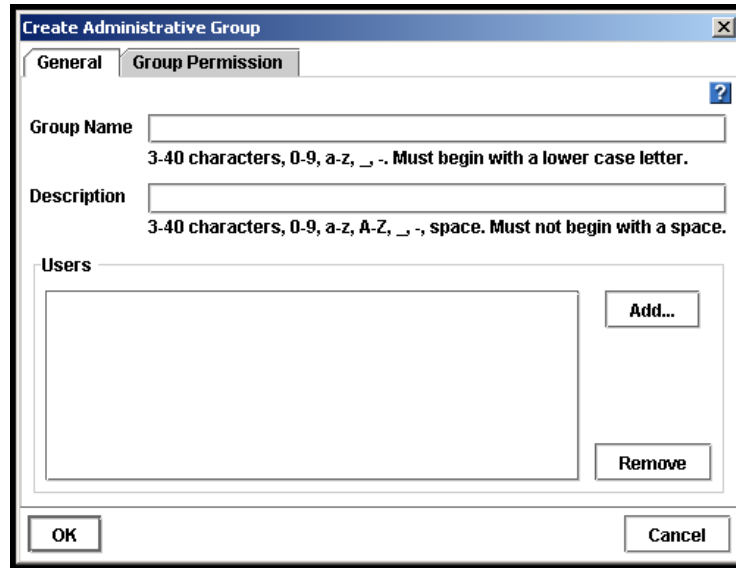

Figure 81. Adding an Administrative Group
Administrative groups are listed on the SSM Administration window on the Groups tab, shown in Figure 81.
2. Click Add on the Groups tab. The Create Administrative Group window opens, shown in Figure 81.